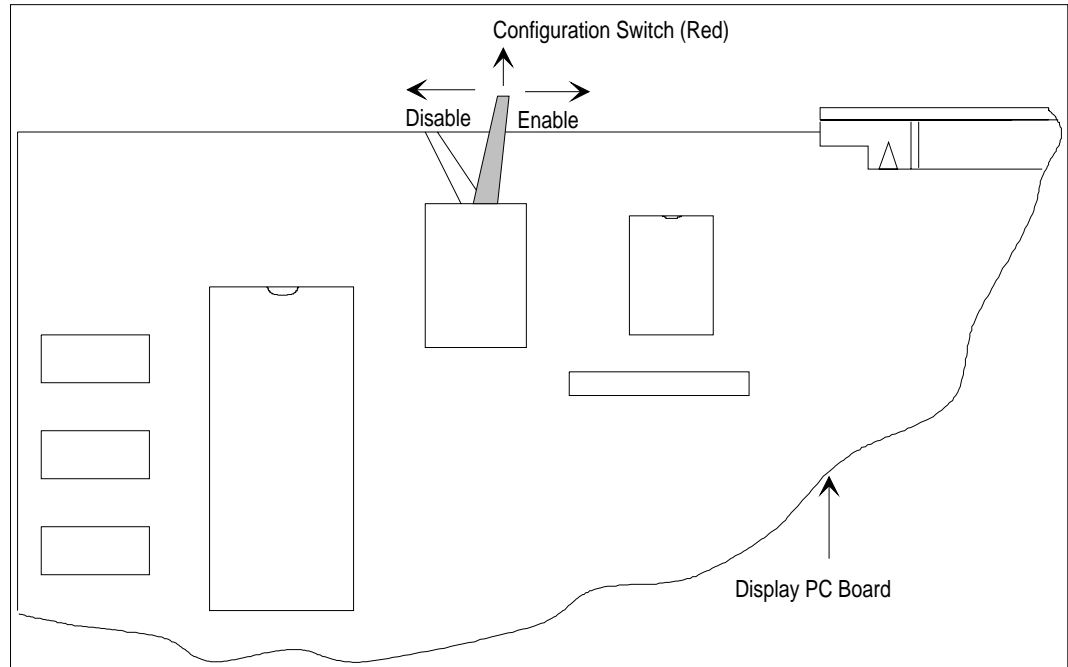

Figure 4-2
3. Move the red paddle switch to the far right position (Figure 4-2).